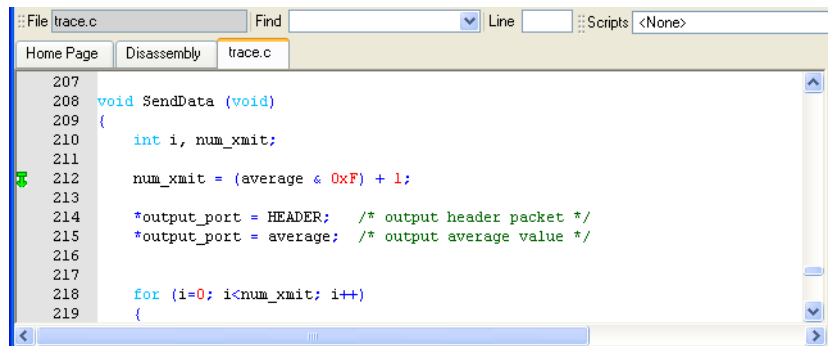

Figure 10-53 Start of Trace Range set
- f. Click **OK**. The dialog box closes, and a Start of Trace Range tracepoint is set as indicated by the green arrow . Figure 10-53 on page 10-49 shows an example. The tracepoint is set at line 212, because this is where the code for `SendData()` starts.